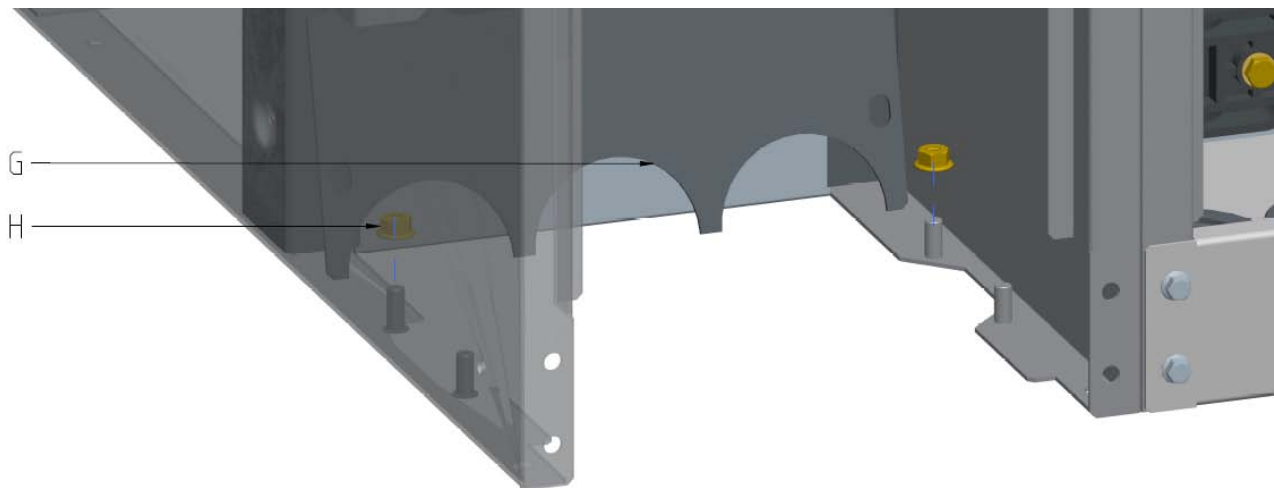

Figure 21: Disassembling the rear bottom plate
The rear bottom panel (G) is to be installed according to Figure 21, after disassembling the two self-securing hexagonal flange nuts (H).